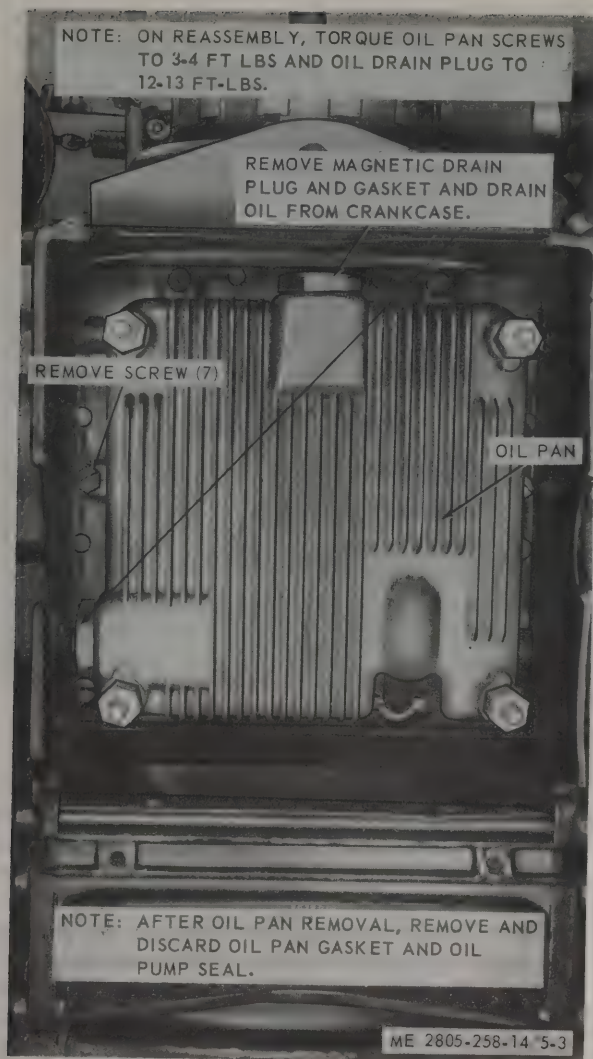

Figure 5-3. Oil pan and check valve, removal and installation.
(1) Remove oil pan cover and shroud (para 3-19).
(2) Refer to figure 5-3 and remove oil pan and check valve.
(1) Refer to figure 5-3 and install oil pan and check valve.
(2) Install oil pan cover and shroud (para 3-19).